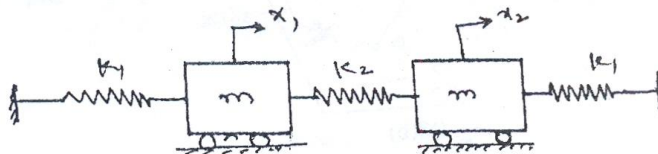

Fig. Q3(b)
- b. Using the Hamilton principle, find the equation of motion of the system as shown in Fig. Q3(b). (10 Marks)